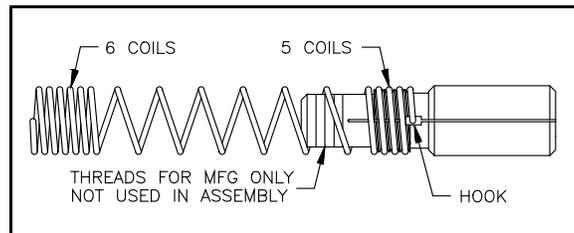

Figure 8.
- 6.5.7 Continue threading the hook onto the collet until it lodges into the center of the widened area of one of the slots. See Figure 8.